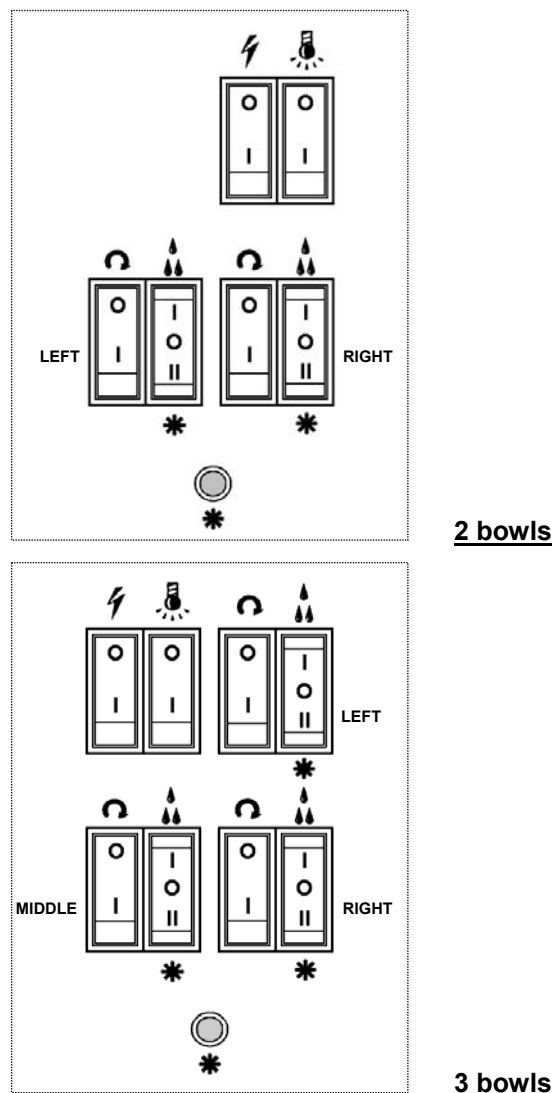

Figure 11
3. To operate, press main power switch and agitator switch to **ON** position (**Figure 11**). **NOTE: The agitator switch must be to ON position before setting to liquid or slush mode.**